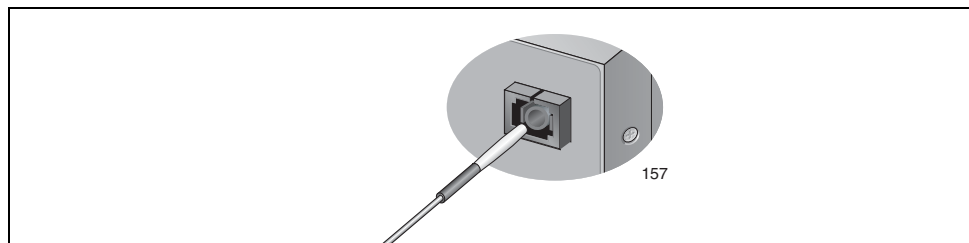

Figure 47. Cleaning a Recessed Ferrule
1. Insert the swab into the adapter as shown in Figure 47 and rub the ferrule tip with the swab.